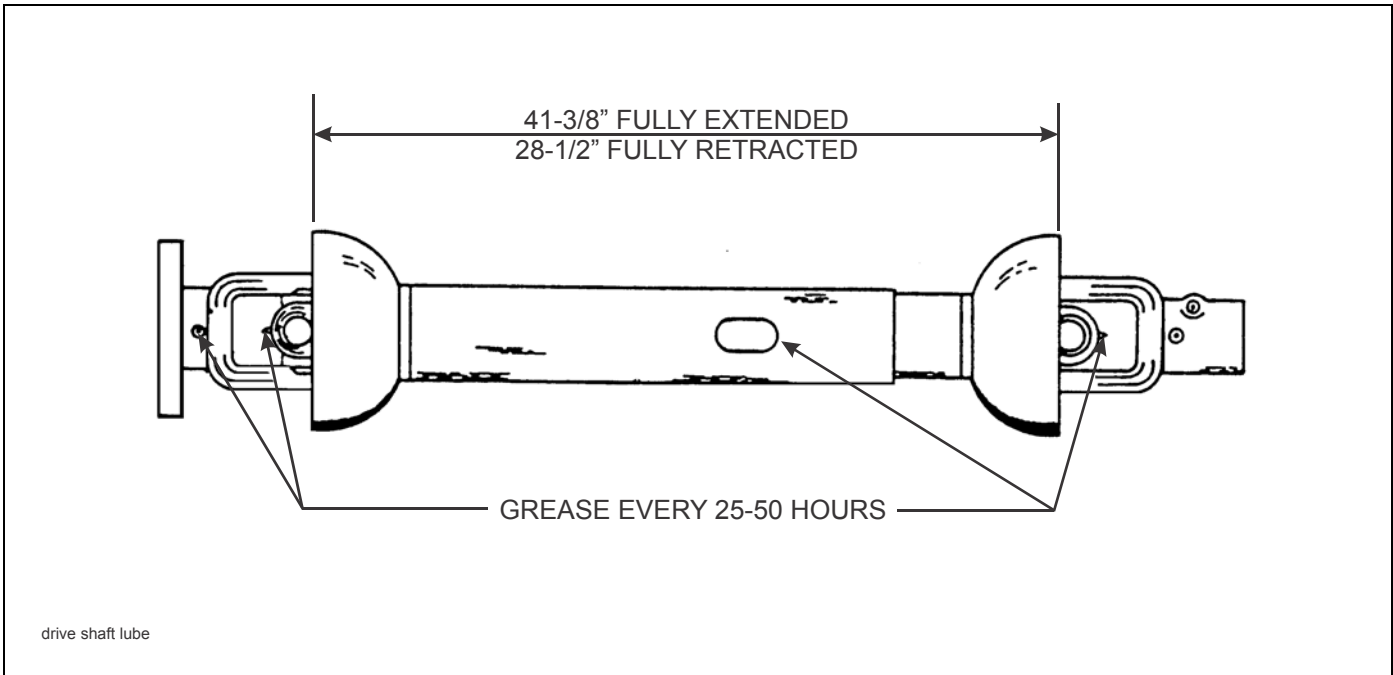

Figure 4-4: Drive Shaft Lubrication
3. Lubricate the drive shaft with a good grade of Lithium Soap Base Grease every 25 to 50 hours of operation (**See Figure 4-4.**) Remove the male end of the drive shaft and pack tube with a generous amount of grease. The drive shaft has four grease fittings.